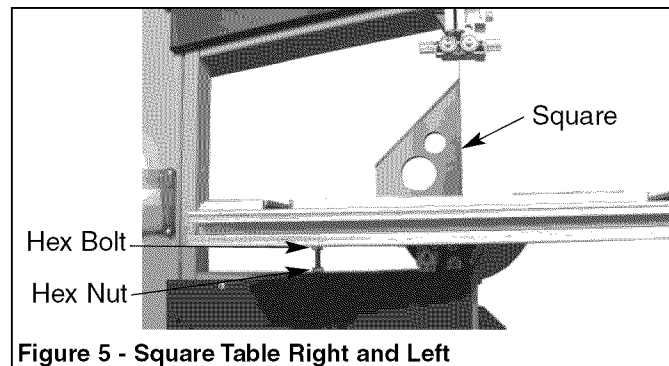

Figure 5 - Square Table Right and Left
- Using a wrench, release the hex nut on the frame (see Figure 5).
- Place the wrench on the hex bolt and adjust until the table square to the saw blade (See Figure 5).